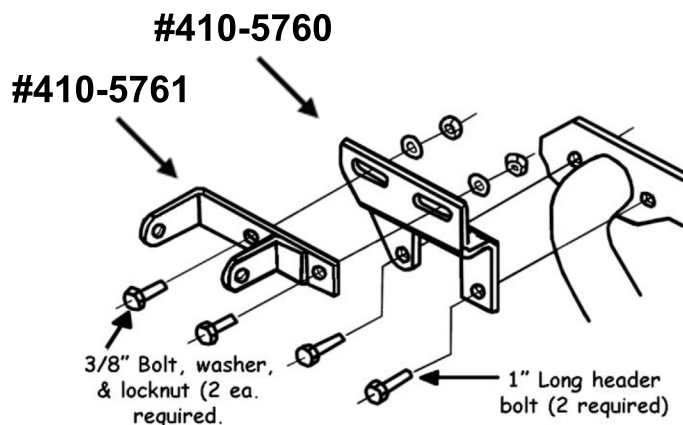

Figure 1
**NOTE: If generator is mounted on left side, use bracket to re-install. See Figure 1.**